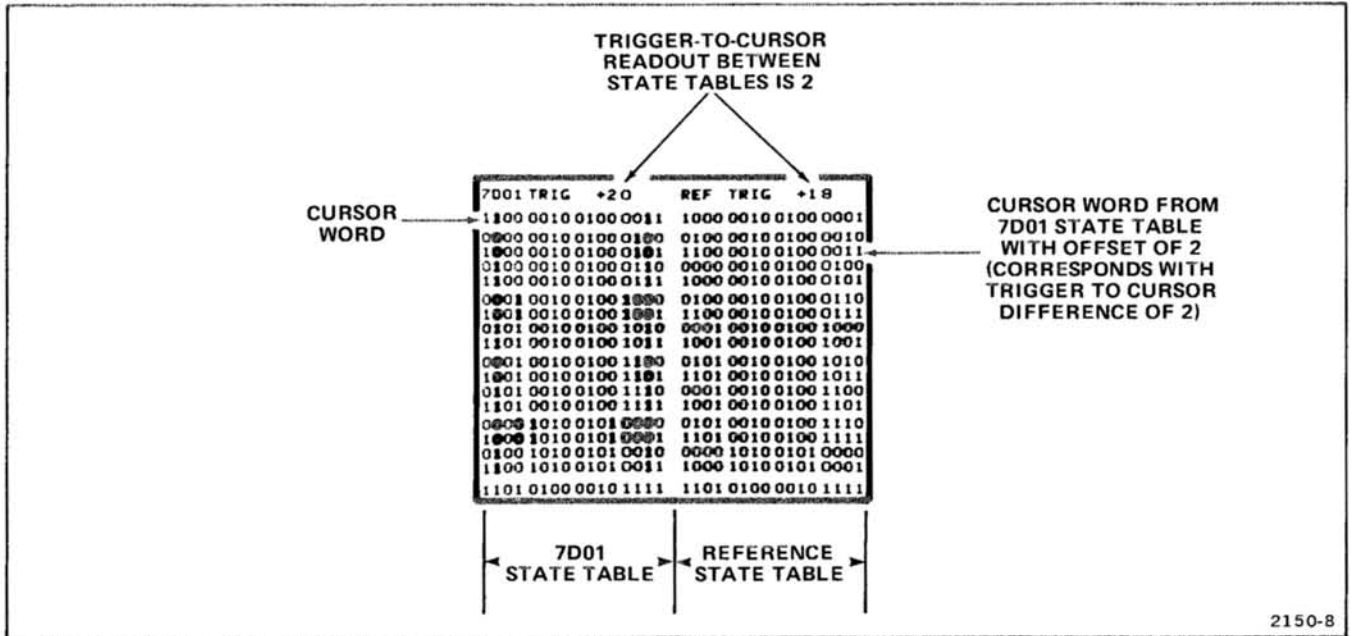

Figure 2-5. Typical state-table display showing offset between the 7D01 and reference state tables.
**REF TABLE HELD.** The HELD mode is functional only when operating in the 7D01  $\odot$  INTENS REF mode. The reference table cursor location remains at one setting, allowing the cursor location in the 7D01 state table to be moved independently (offset). Refer to Figure 2-5.
**REF TABLE FOLLOWS WITH/OFFSET.** The FOLLOWS WITH/OFFSET mode is functional only when operating in the 7D01 ⊕ INTENS REF mode. The difference in cursor location (offset) between the 7D01 state table and the reference state table, is maintained at the time the FOLLOWS W/OFFSET push button is pressed (see Figure 2-5). The offset between the 7D01 and reference state tables remains constant as the 7D01 cursor is moved. To delete the trigger-to-cursor offset, select REF TABLE FOLLOWS 7D01.
if the trigger-to-cursor readout of the state table displays is offset, the 7D01 state table will be transferred to the reference state table with that offset (intensified bits may appear). The tables are equal but offset by the trigger-to-cursor readout (see Figure 2-5). To make the tables equal, either set the 7D01 cursor position controls so that the trigger-to-cursor readout is the same for both state tables or press the REF TABLE FOLLOWS 7D01 push button.